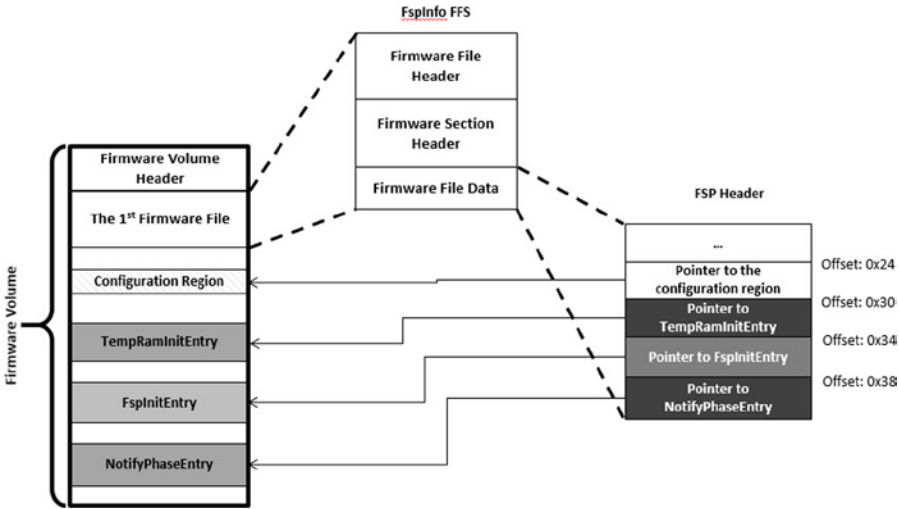

Figure 3-2. Intel FSP binary Firmware Volume (FV) layout
Intel FSP chose to follow UEFI's Firmware Volume (FV) layout format. Don't be alarmed if you are not familiar with Platform Initialization (PI), UEFI, or FV. FV is just a layout format that dictates how the data inside is organized. If you want to learn more about FV, please find more information in the Appendix or look it up on the UEFI web site. The diagram in Figure 3-2 shows the FV layout format.
Figure 3-2 shows an FV where Intel FSP resides, but Intel FSP can be split into multiple FVs due to the needs of secure boot and other features. For example, there can be one FV that contains part of the code that needs to be certified and signed, and there can be another part of the code that is customizable for developers; therefore, the latter can exist in a different FV so that the second part can be certified or signed separately from the first one. The other case that warrants the separation of the FVs is where one part can be masked after production and the other part can be updated in the field. Intel FSP provides the flexibility to be used in different ways.